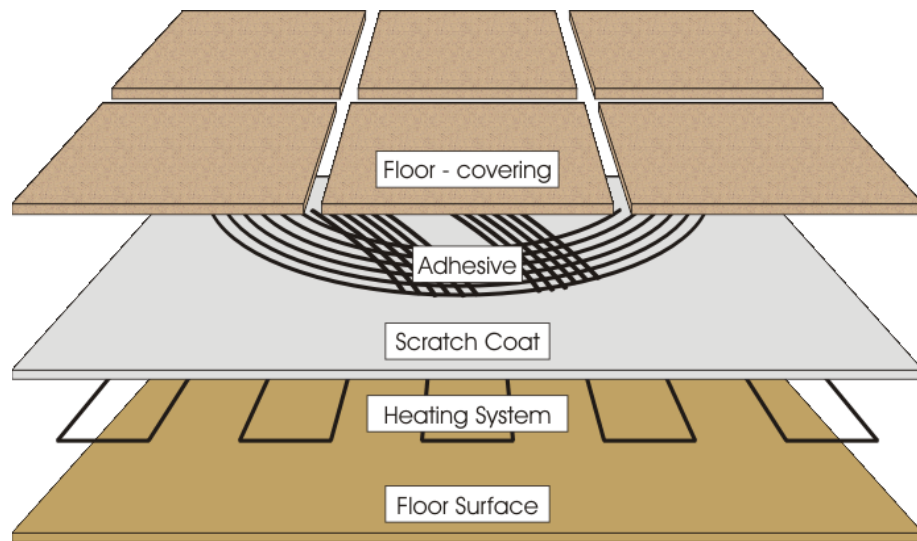

Figure 9
2. Scratch Coat Method (Fig. 9)
3. Self Leveling Cement Method (Fig. 9) (Recommended)